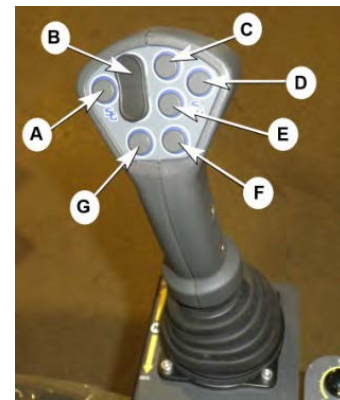

Fig.2. Control Handle.
- Fig.2.Flap Position: **Increase/Up** – Button '**C**'.